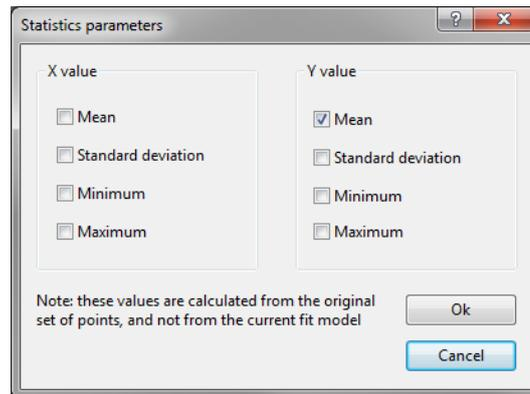

Figure 13: The *Statistics parameters* dialog box.
5. Check **Mean** for the **Y value** and press **<OK>** (see Figure 13).